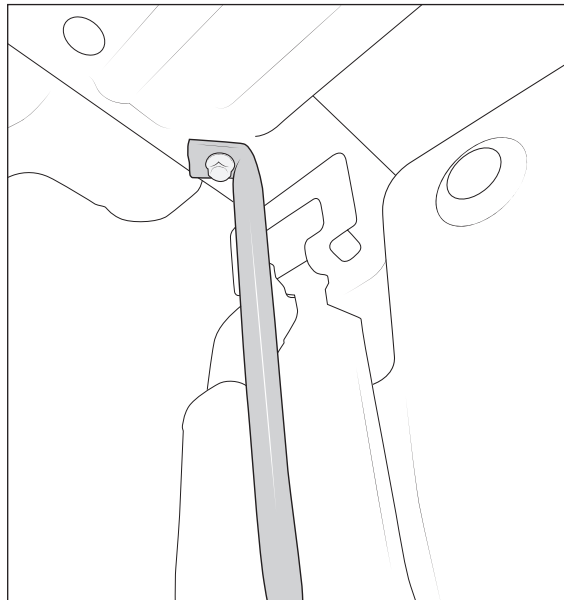

Figure 5
3. Loosely install the first pencil brace, part number AT1P0147, to the handle nut with an M8 bolt (fig. 5).